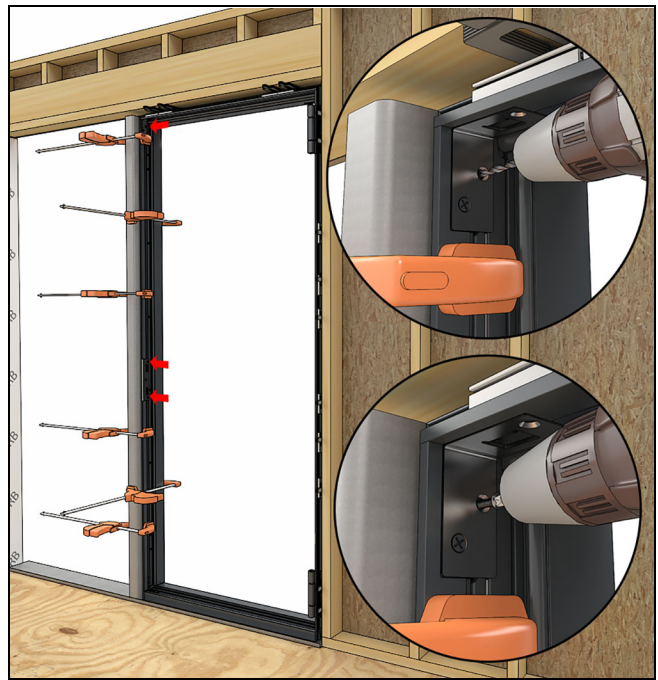

Figure 231
13. Using the pre-drilled hardware holes in the frame as a guide, drill through the steel with the appropriate bit. Use the table in step 12 on page 62 as a guide. See Figure 231.